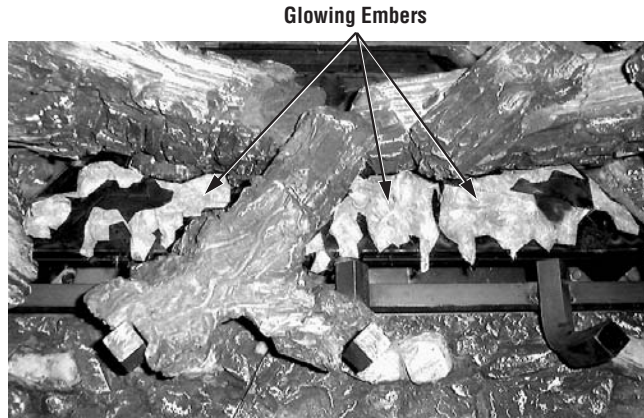
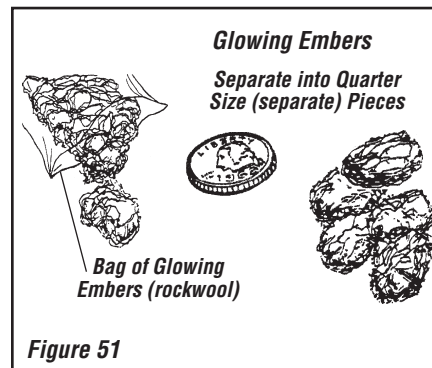

Figure 52
Figure 51
Step 3. Separate the Glowing Ember (Rockwool) into pieces about the size of a quarter (Figure 51). Keep the pieces fluffed up, not matted. Distribute these pieces over the front surface of the burner, as shown in Figure 52. Do not use more than is necessary. When properly positioned, the Glowing Embers will cover approximately 65% of the front burner and with no appreciable gaps or openings. Ensure that the main burner ports remain uncovered by the ember material.
Position the individual logs as shown below. Logs should be placed in the order shown. Position the center log on the burner first, then place the glowing embers as shown in **Figure 52**. Place the rear log, both the right and left, and then the smaller left and right top logs. All logs that have notches to fit over the grate tines should be positioned with these notches directly against the grate. All top logs that rest on lower logs, do so over flattened mounting faces in the bottom logs.